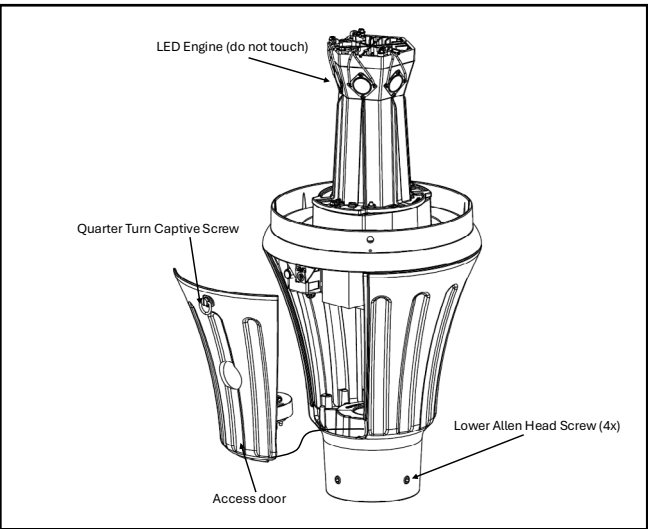

Figure 1.
1. Remove access door by turning the captive quarter turn screw counter-clockwise to disengage lock. (Figure 1)